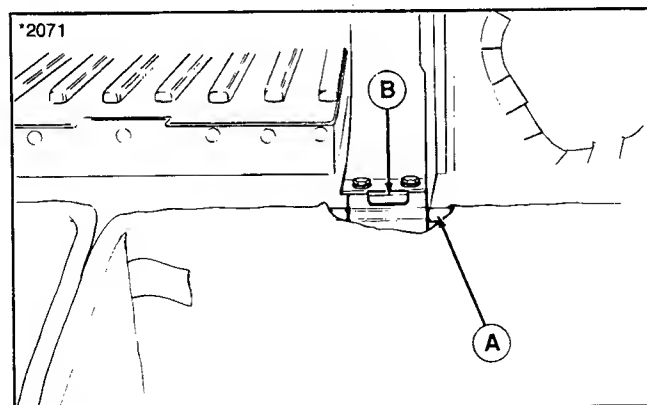

Figure 3.
2. Open grass bag cover and install grass bag frames (A, figure 3) to support brackets (B).